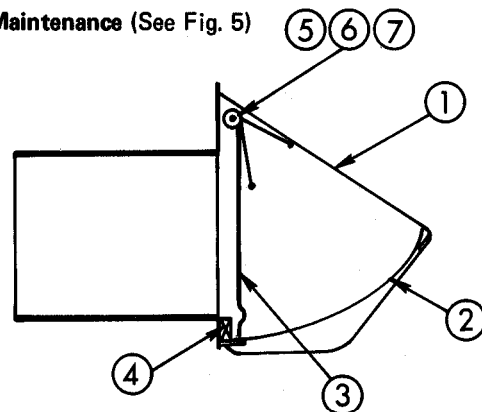

Figure 5
Plan Installation carefully. Before installing wall cap, make sure that birdscreen is in place and bowed outward. Make sure that birdscreen does not interfere with movement of damper flap. Refer to Figure 5 and Step 8 under "Maintenance".
Maintenance (See Fig. 5)
8. Replace birdscreen. Birdscreen must bow outward as shown in Figure 5 to insure free movement of damper flap.